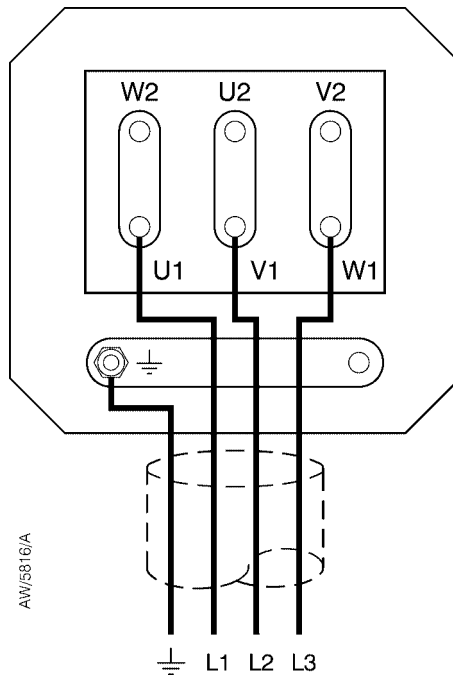
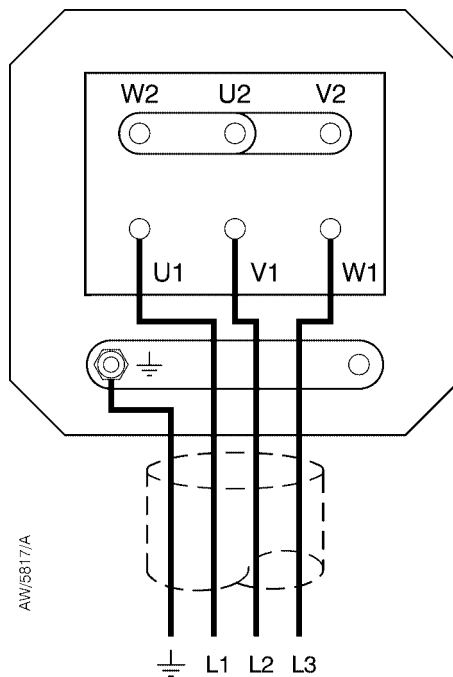

Figure 5 - Motor terminal-box low-voltage configuration: 3-phase pumps
Figure 6 - Motor terminal-box high-voltage configuration: 3-phase pumps
2. Check your electrical supply voltage and frequency. The universal motor of the pump can be configured for 'low-voltage' operation (200-230 V) as shown in Figure 5, or for 'high-voltage' operation (380-460 V), as shown in Figure 6. If necessary, reconfigure the motor to operate with your supply voltage.
5. Connect the phase wires in the cable (L1, L2, L3) to the U1, V1 and W1 terminals as shown in Figures 5 or 6, depending on your electrical supply voltage, then connect the earth (ground) wire in the cable to the earth (ground) stud in the terminal-box.